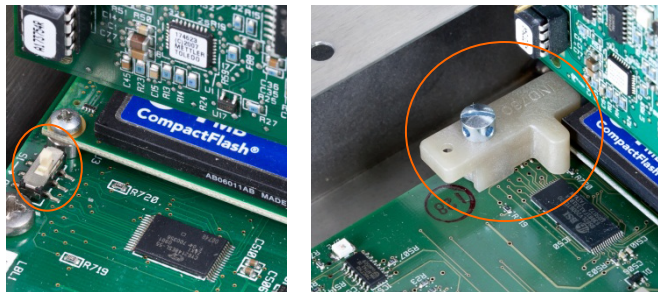

Figure 2-113: Metrology Security Switch (left) and Cover Installed (right)
5. Install the Security Cover to prevent access to S1, the Metrology Security Switch indicated in Figure 2-113, Main PCB Switches.